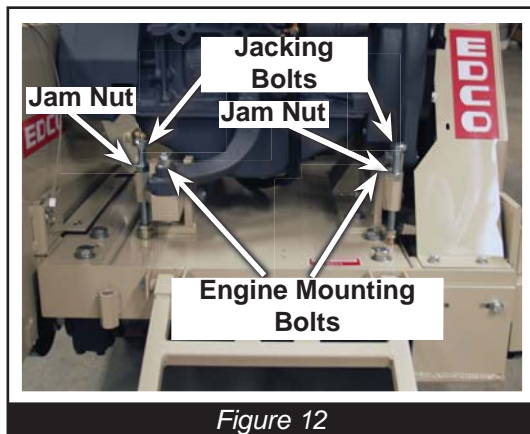

Figure 12
- Loosen engine mounting bolts and jam nuts, then turn jacking bolt to lift or lower engine mount. Lift engine to tighten belts lower engine to loosen/replace belts. (Figure 12)